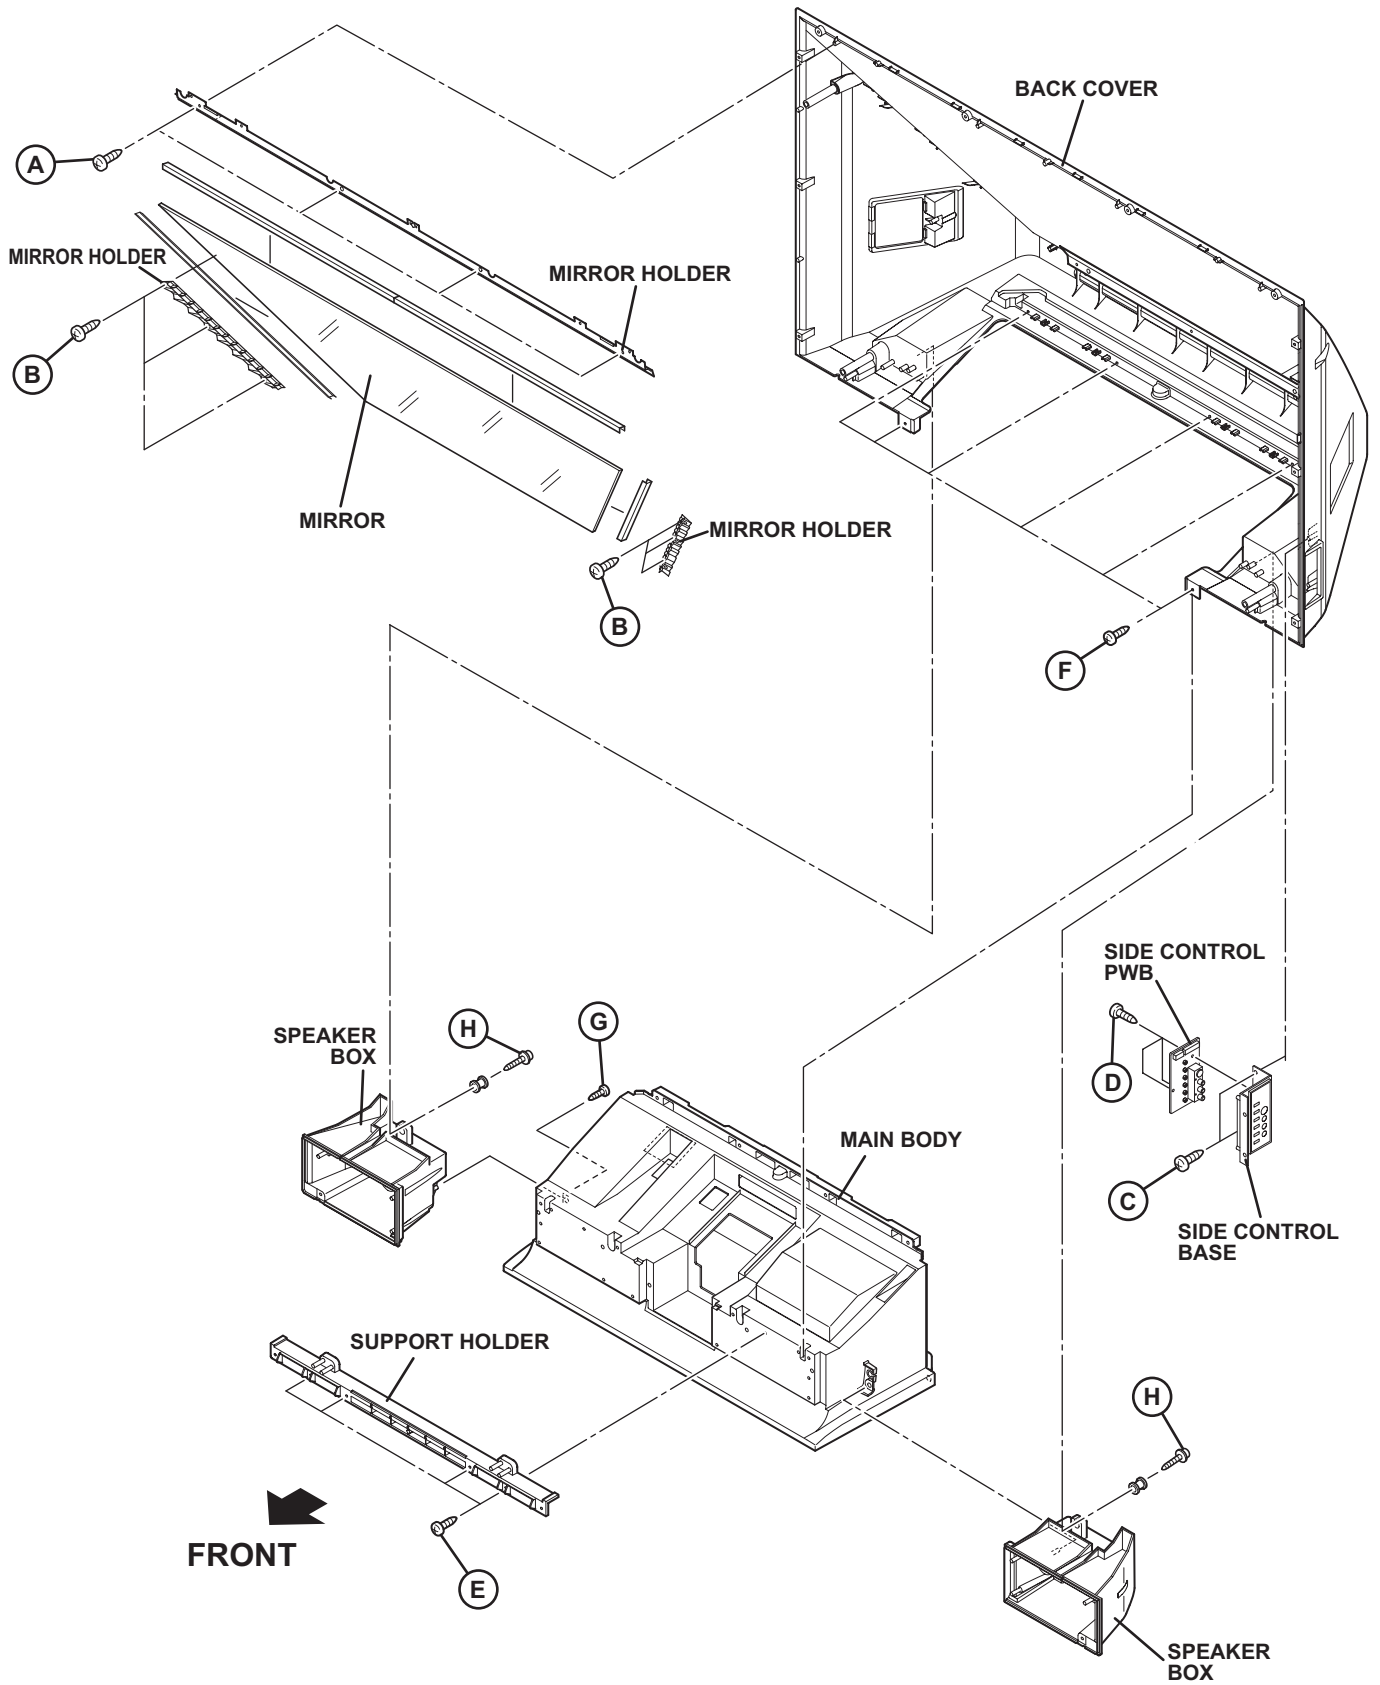

Fig.2
3.1.1.10 REMOVING THE MIRROR (Fig.2)
3.1.1.11 REMOVING THE SIDE CONTROL PWB (Fig.2)
3.1.1.12 REMOVING THE SUPPORT HOLDER (Fig.2)
- (1) Remove the 2 screws **[E]**.
- (2) Remove the SUPPORT HOLDER.
3.1.1.13 REMOVING THE BACK COVER (Fig.2)
3.1.1.14 REMOVING THE SPEAKER BOX (Fig.2)